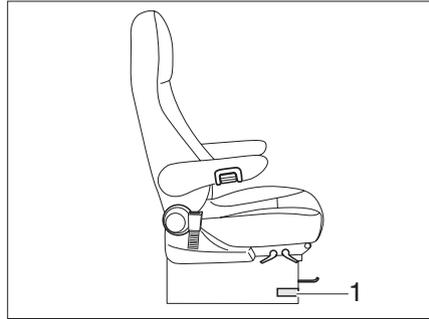

Fig. 38 Driver's seat and front passenger's seat
- ▶ Push or pull the level to turn the seat (Fig. 38,1). The seat is released from the locking device.